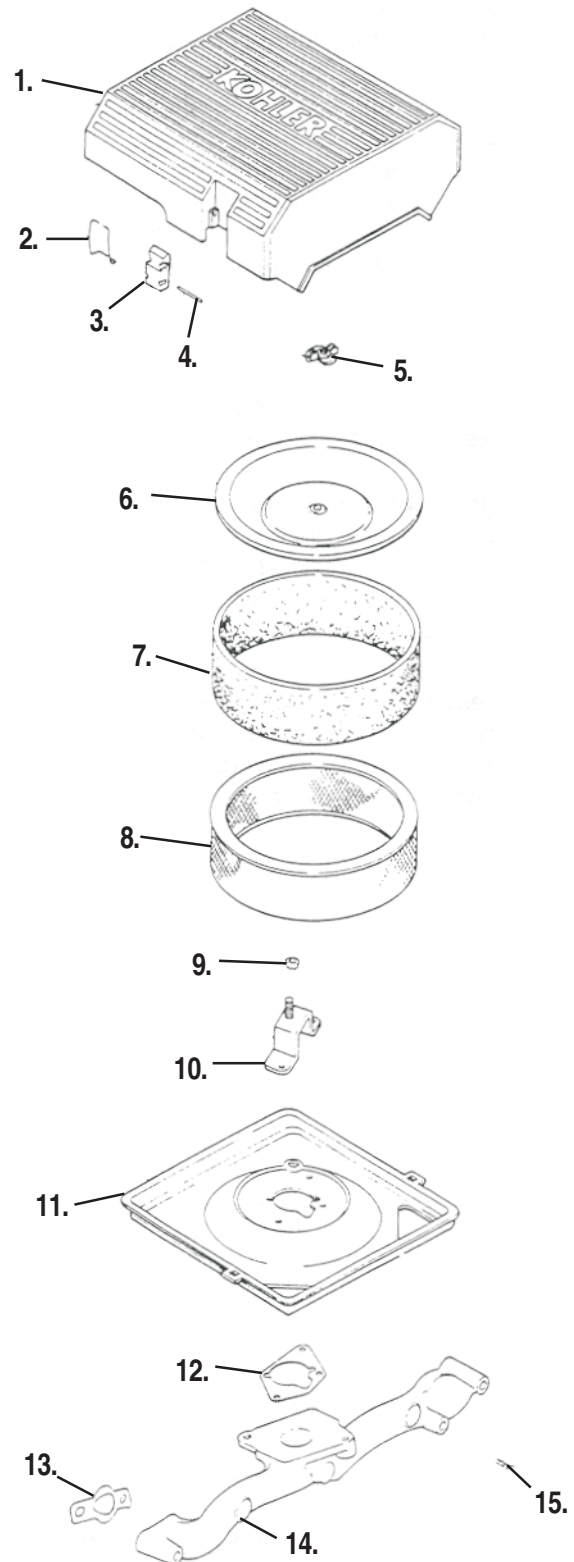

Figure 13. Air Cleaner Components
To service the precleaner perform the following steps, refer to Figure 13:
1. Release the latches located on either side of the air cleaner cover (Figure 13), and remove the cover.
Air Cleaner Components - See Figure 13.
Refer to the following steps and to Figure 13: